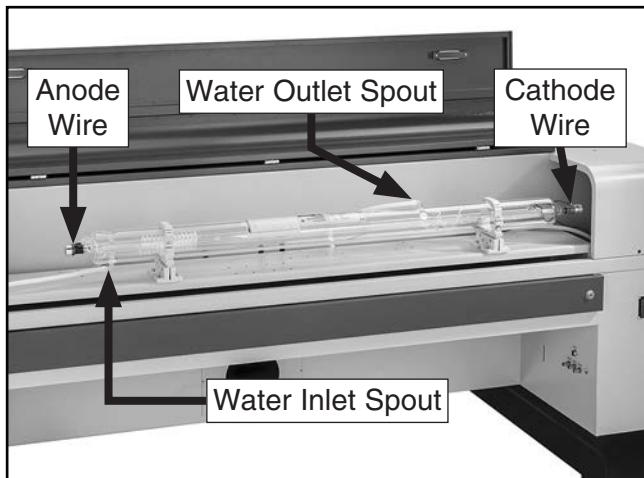

Figure 96. Laser tube component locations.
- Disconnect anode and cathode wires from laser tube (see **Figure 96**).
- At laser tube INLET and OUTLET water spouts (see **Figure 96**), cut off water hose at end of spout, and with utility knife, carefully slit remaining hose until it can be peeled off.